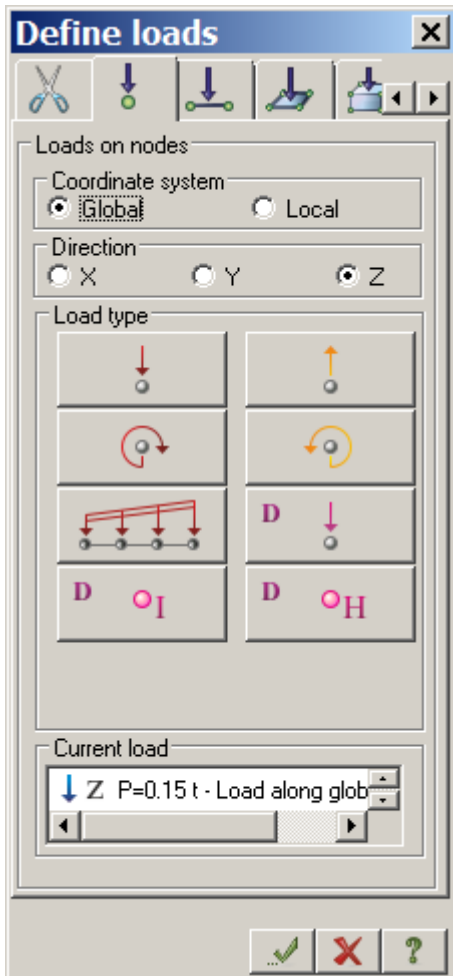

Figure 8.16 Define loads dialog box
- ⇒ In the **Define loads** dialog box (see Fig.8.16), specify **Global** coordinate system and direction along the **Z**-axis (default parameters).